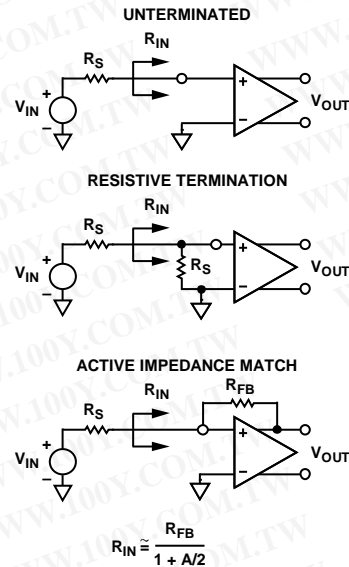
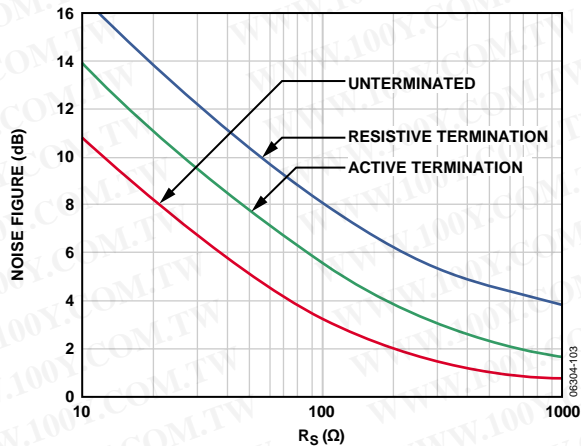
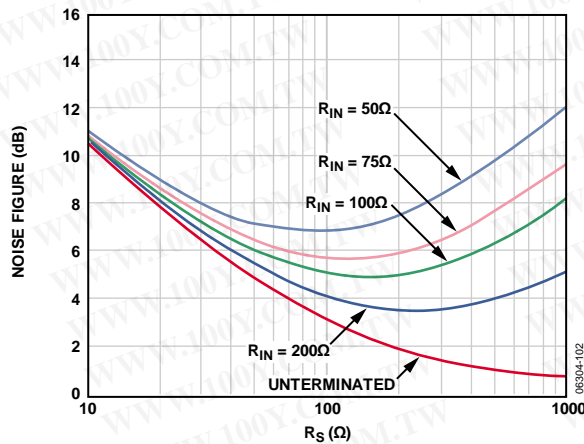

Figure 43. Input Configurations
Figure 44. Noise Figure vs. R_S for Resistive Termination, Active Termination Matched, and Untermated Inputs, $V_{Gain} = 1\text{ V}$, 15.6 dB LNA Gain
Figure 45. Noise Figure vs. R_S for Various Fixed Values of R_{IN} , Active Termination Matched Inputs, $V_{Gain} = 1\text{ V}$, 15.6 dB LNA Gain
The short-circuit noise voltage (input-referred noise) is an important limit on system performance. The short-circuit noise voltage for the LNA is 1.2 nV/ $\sqrt{\text{Hz}}$ or 1.4 nV/ $\sqrt{\text{Hz}}$ (at 15.6 dB LNA gain), including the VGA noise. These measurements, which were taken without a feedback resistor, provide the basis for calculating the input noise and noise figure (NF) performance of the configurations shown in Figure 43. Figure 44 and Figure 45 are simulations of noise figure vs. R_S results using these configurations and an input-referred noise voltage of 4 nV/ $\sqrt{\text{Hz}}$ for the VGA. Underterminated ($R_{FB} = \infty$) operation exhibits the lowest equivalent input noise and noise figure. Figure 45 shows the noise figure vs. source resistance rising at low R_S —where the LNA voltage noise is large compared with the source noise—and at high R_S due to the noise contribution from R_{FB} . The lowest NF is achieved when R_S matches R_{IN} .
The primary purpose of input impedance matching is to improve the transient response of the system. With resistive termination, the input noise increases due to the thermal noise of the matching resistor and the increased contribution of the LNA's input voltage noise generator. With active impedance matching, however, the contributions of both are smaller (by a factor of $1/(1 + \text{LNA Gain})$) than they would be for resistive termination. Figure 44 shows the relative noise figure performance. In this graph, the input impedance was swept with R_S to preserve the match at each point. The noise figures for a source impedance of $50\ \Omega$ are 7.1 dB, 4.1 dB, and 2.5 dB for the resistive termination, active termination, and unterminated configurations, respectively. The noise figures for $200\ \Omega$ are 4.6 dB, 2.0 dB, and 1.0 dB, respectively.
Figure 45 shows the noise figure as it relates to R_S for various values of R_{IN} , which is helpful for design purposes.